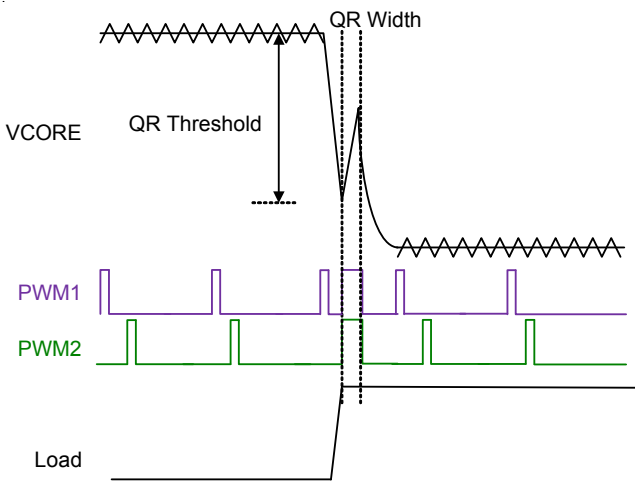
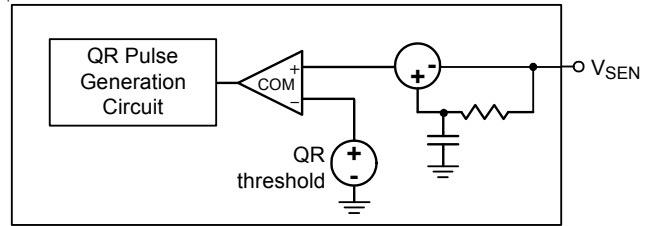

Figure 25. Quick Response Mechanism
Figure 26. Simplified QR Trigger schematic
**Quick Response (QR) Mechanism**
When the transient load step-up becomes quite large, it is difficult for loop response to meet the energy transfer. Hence, that output voltage generate undershoot to fail specification. The RT3601BH has Quick Response (QR) mechanism being able to improve this issue. It adopts a nonlinear control mechanism which can disable interleaving function and simultaneously turn on all UGATE one pulse at instantaneous step-up transient load to restrain the output voltage drooping. Figure 25 shows the QR behavior.
The output voltage signal behavior needs to be detected so that QR mechanism can be triggered. The output voltage signal is via a remote sense line to connect at the VSEN pin which is shown in Figure 26. The QR mechanism needs to set QR width and QR threshold. Both definitions are shown in Figure 25. A proper QR mechanism set can meet different applications. The SET1 and SET2 pins can set QR threshold and QR width by internal current source 80μA with multi-function pin setting mechanism for Main and AUX1 VR rails. Table 6 shows the QR\_TH and QR\_WIDTH for Main and AXUI VR rails on the SET[1:2] pins.